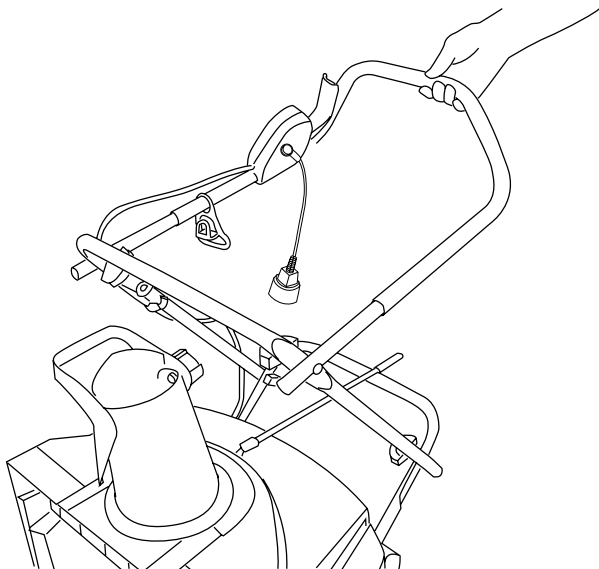

Figure 2
1. The machine is packed ready to go. Pull the middle frame back (Fig. 2). For easy assembly, we packaged the model with most parts connected. Pull the upper frame up (Fig. 2).